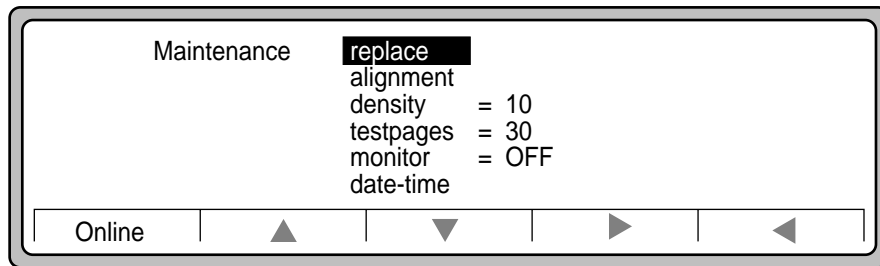

Figure 2-82 Maintenance Settings
3. Press the **right arrow** to highlight the **Maintenance** screen, shown in Figure 2-82.